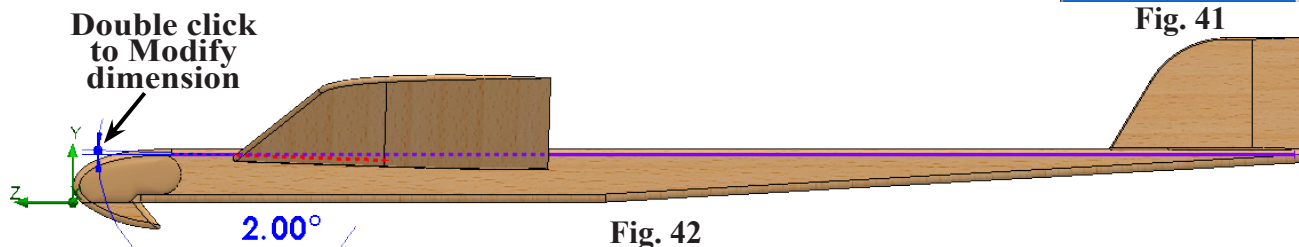

Fig. 42
Step 6. **Double click** the 2 degrees dimension  to modify, **Fig. 42**.